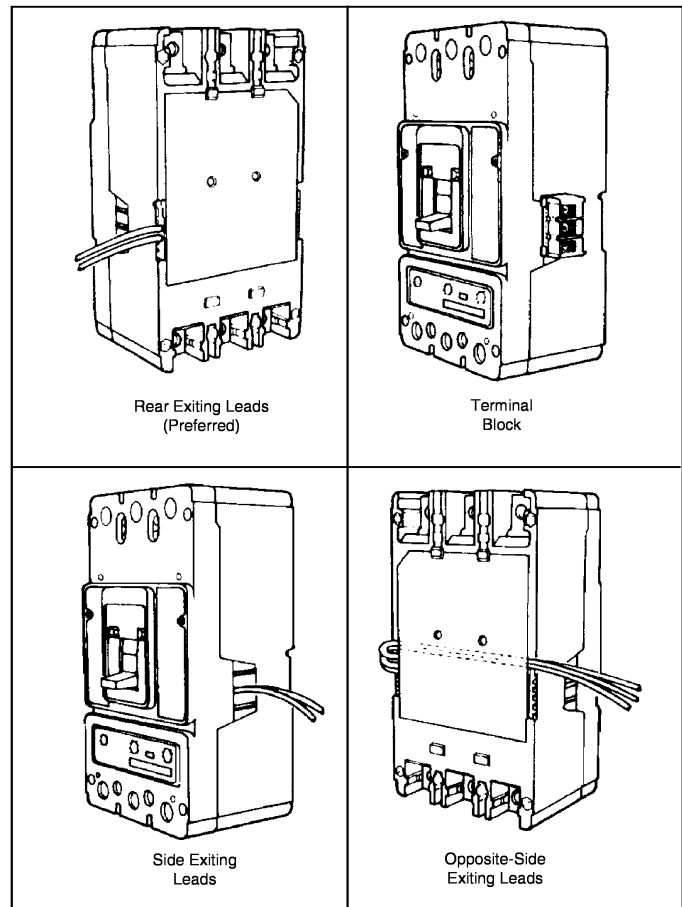

Figure 2-4 Accessory Wiring Options
- 2-8. Route wiring to meet installation requirements (Figure 2-4). If required, complete routing of leads to opposite side through rear window trough.